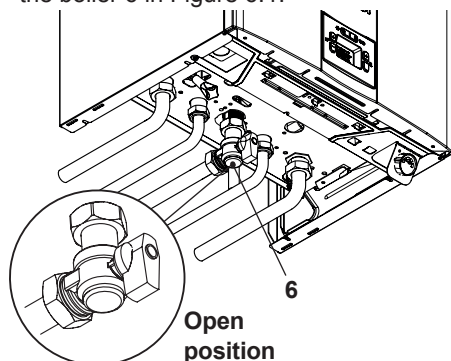

Figure 6.1
- Open the cock for the gas meter and for the boiler 6 in Figure 6.1.